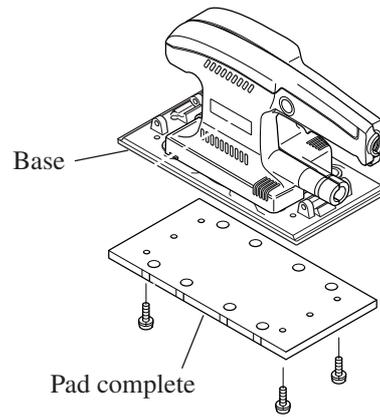

Fig.1.
(1) Remove pad by taking off 4 screws as illustrated in Fig.1